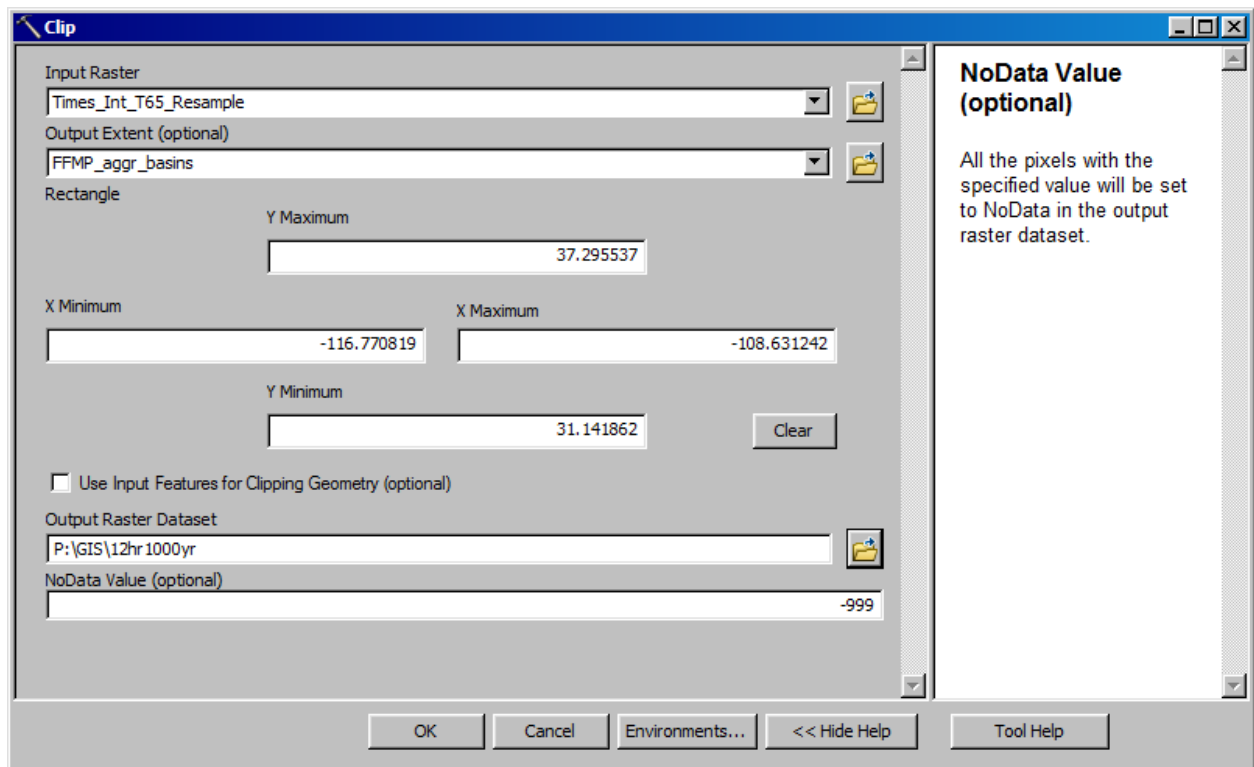

Figure 6 – Using the Raster Clip Tool
8. Using the Raster Clip tool, clip the grid created in step 7 above to the FFMP Small Basin Aggregate shape file added to the project in step 4 above. This is another step that may not be necessary, but it seemed to increase the localization speed. Depending on the number of ARI grids ingested the time saved could be significant. This step does, however, specify the no data value to use. The raster will likely have grid cells with no value, especially if your domain is on the edge of the original ARI grid. By specifying a no data value, FFMP can place a Missing value in the Basin table when needed. See figure 6 below.